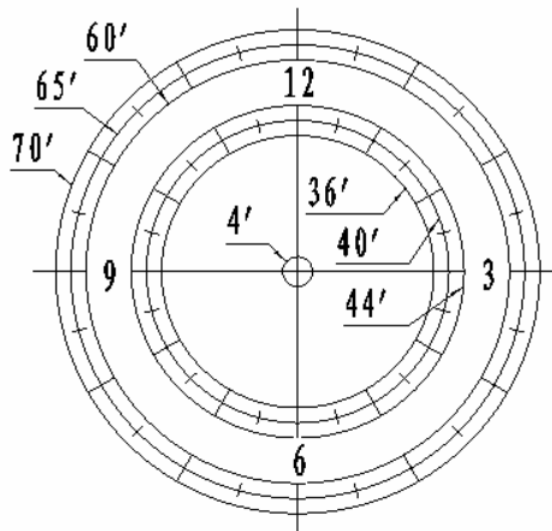

Figure 8
- (2) Take off the Polar Axis Cover and Polar Scope Cover;
- (3) Remove the protection tape on the thread-in hole located on the Polar Scope. Then thread the dark field illuminating LED end into the thread-in hole and plug the other end into the Reticule socket located on the RA unit. The illumination intensity can be adjusted using the HC via "**Set Eyepiece Light**" function under "**Set Up Controller**" menu;
- (4) Using UP or DOWN button to turn the DEC axis to unblock the Polar Scope view (there is a hole on the DEC axis);
- (5) Using LEFT or RIGHT button to turn the RA axis to rotate the Polar Scope dial to a clock position where 12 is at the top, as shown in Figure 8;